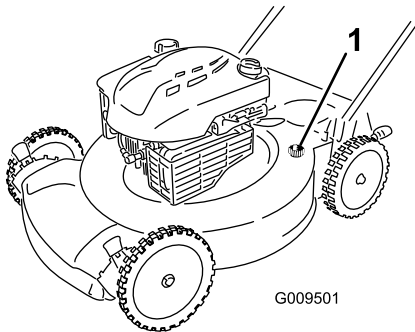

Figure 31
5. Attach a garden hose that is connected to a water supply to the washout port on the mower housing (Figure 31).